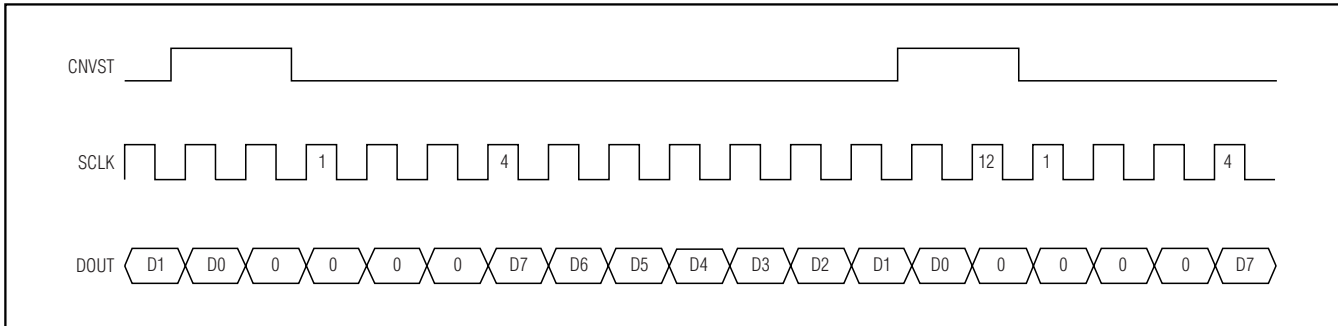

Figure 17. DSP Interface—Continuous Conversion
The MAX1336/MAX1337 can also be connected to the TMS320C54\_ by using the data-transmit (DX) pin to drive CNVST and the transmit clock (CLKX) generated internally to drive SCLK. A pullup resistor is required on the CNVST signal to keep it high when DX goes high impedance and write (0001)h to the data-transmit register (DXR) continuously for continuous conversions. The power-down modes may be entered by writing (00FF)h to the DXR (see Figures 17 and 18).
modes of operation that can be programmed to interface with the MAX1336/MAX1337. For continuous conversions, idle CNVST low and pulse it high for one clock cycle during the LSB of the previous transmitted word. Configure the ADSP21\_ \_ \_ STCTL and SRCTL registers for early framing (LAFR = 0) and for an active-high frame (LTFS = 0, LRFS = 0) signal. In this mode, the data-independent frame-sync bit (DITFS = 1) can be selected to eliminate the need for writing to the transmit data register more than once. For single conversions, idle CNVST high and pulse it low for the entire conversion. Configure the ADSP21\_ \_ \_ STCTL and SRCTL registers for late framing (LAFR = 1) and for an active-low frame (LTFS = 1, LRFS = 1) signal. This is also the best way to enter the power-down modes by setting the word length to 8 bits (SLEN = 0111). Connect the DVDD pin to the ADSP21\_ \_ \_ supply voltage (see Figures 17 and 18).